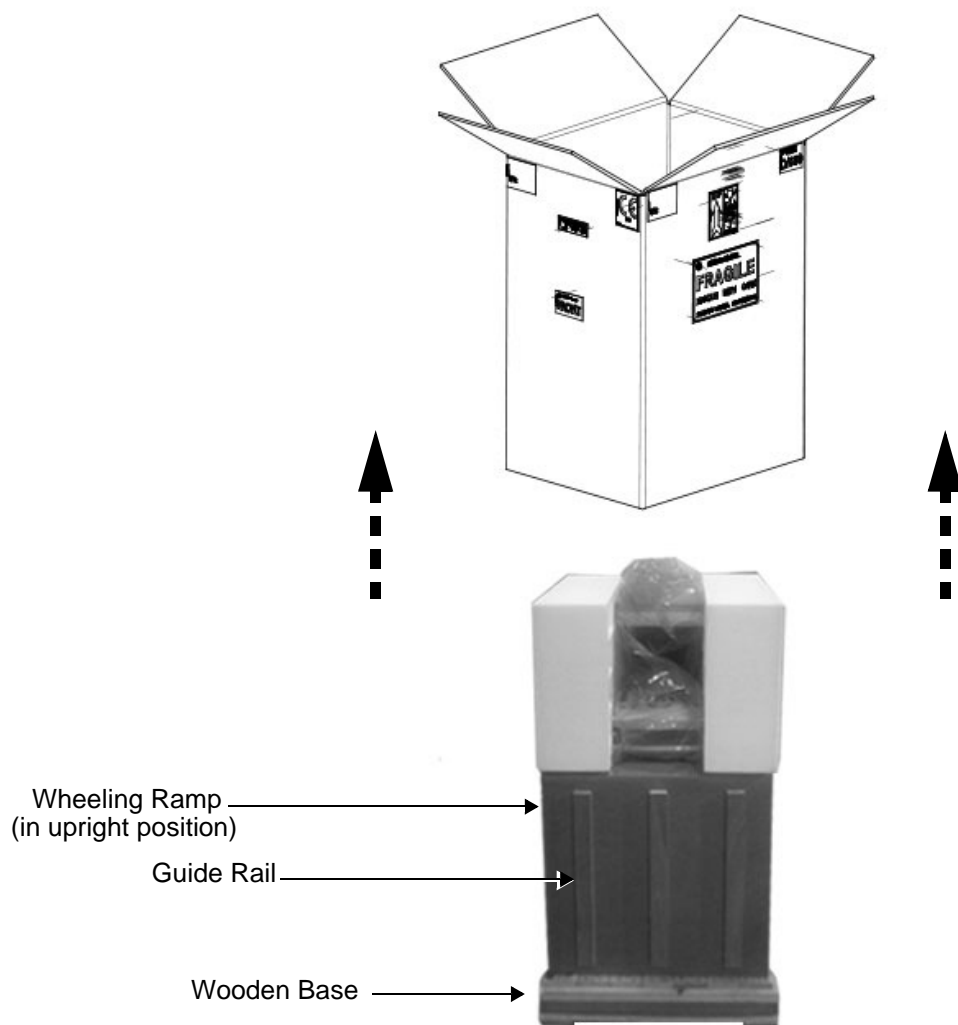

Figure 3-6 Wheeling Ramp in Upright Position
- 3.) Remove the outer cardboard walls pulling them gently *upwards* and away from the system (Figure 3-6).